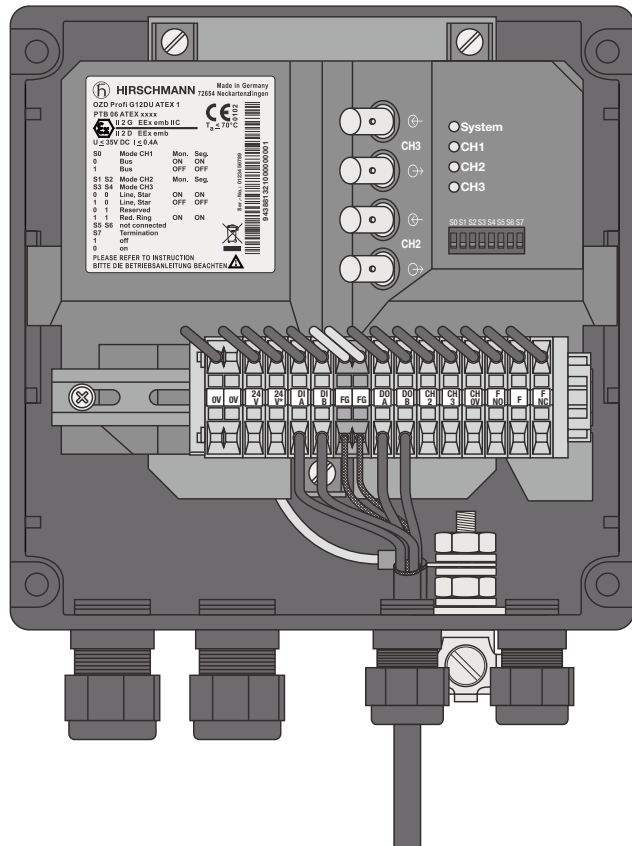

Fig. 23: Cable lead-through of the electrical bus cables for OZD Profi G12DK ATEX 1
- ▶ Lead both the RS 485 cables OZD Profi G12DK ATEX 1 and OZD Profi G12DE ATEX as shown in figure 23 through the two cable entries (PG-glands).